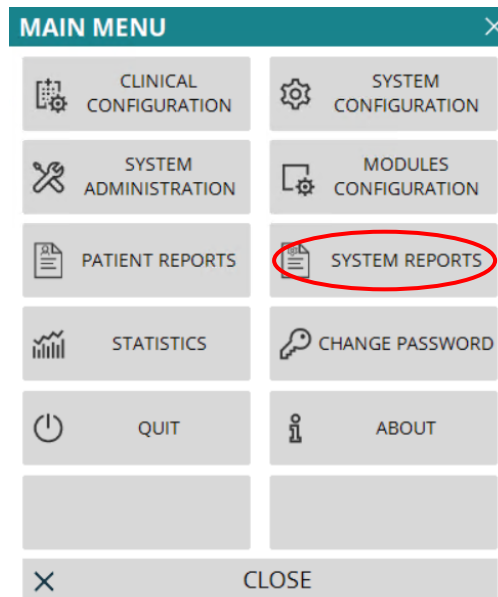

Fig 30
The following menu is displayed (Fig 30).
- Click **SYSTEM REPORTS** (Fig 30).